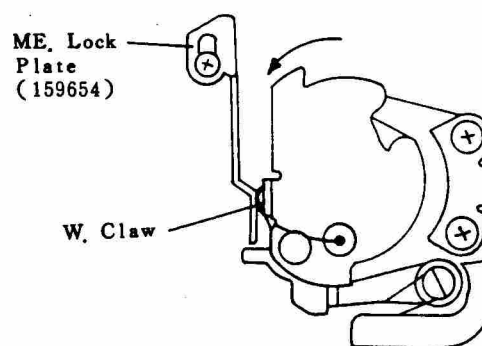

Fig 41
**Note :** On the way of winding, ME Lock Plate does not push W. Claw. See (Fig 41)